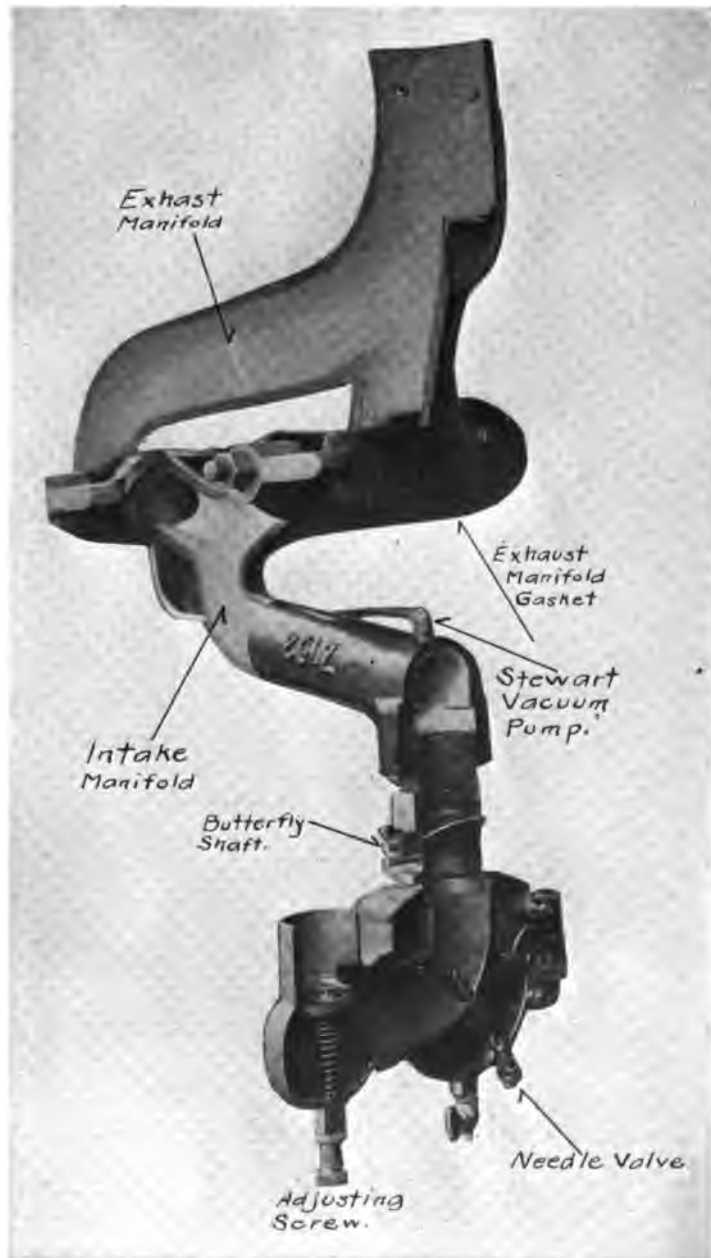

Fig. 19.
- 159 — Fig. 19 shows a cut-away section of the carbureter, intake and exhaust manifold on the “75” engine with the various parts indicated.